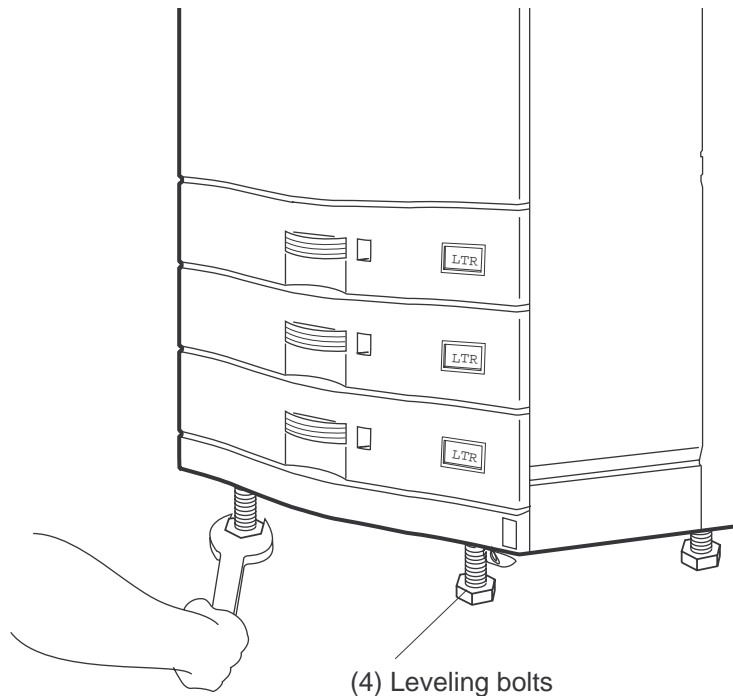

Figure A-16 Securing the Leveling Bolts
6. Use the wrench to lower the leveling bolts until the wheels are just off the ground, as shown in Figure A-16.